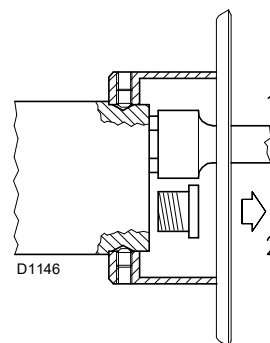

Fig. 12
- install two nozzles with the box wrench 1)(Fig. 12), after having removed the plastic plugs 2);